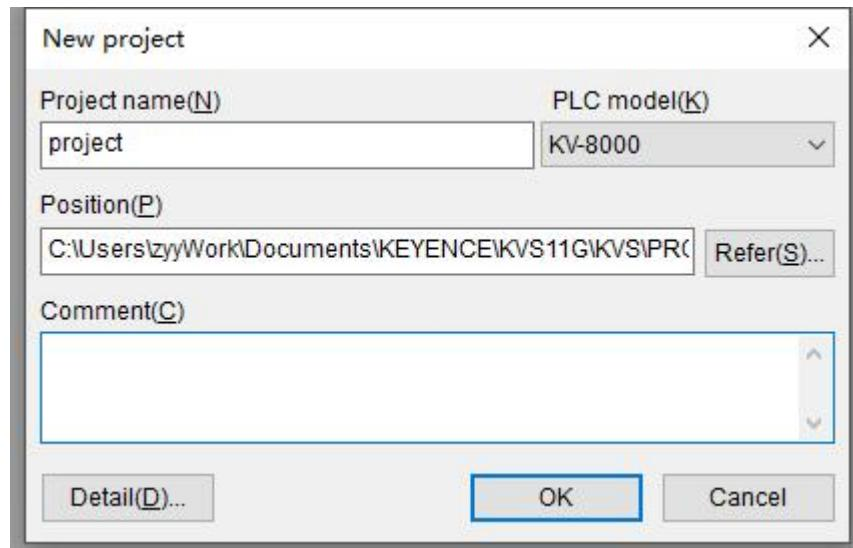

Figure 4-1-2
- shown in Figure 4-1-2 , create a project, open the project view , fill in the project name and location, and select the PLC used in the project (the example uses KV-8000) :